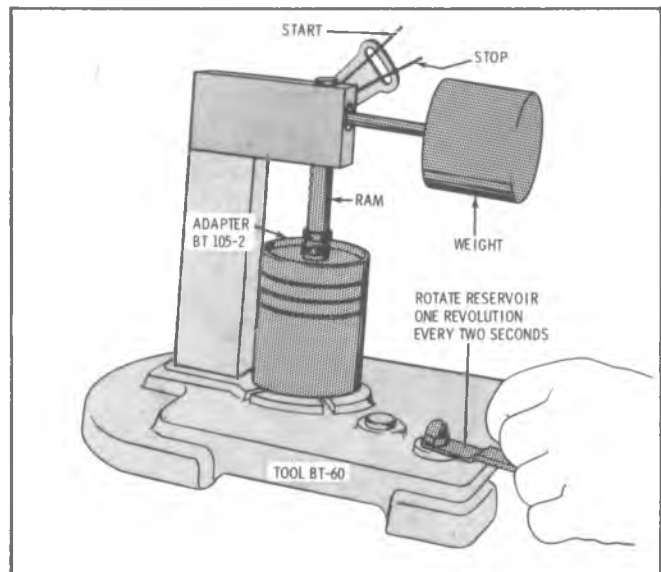

Fig. E-33—Valve Lifter Testing
16. Raise arm, then start test by resting ram on steel ball. Rotate reservoir one revolution every two seconds and time the indicator from the start to the stop line. (Fig. E-33) Allowable leak-down rate is six seconds minimum for used lifters and 9 to 60 seconds for new lifters.